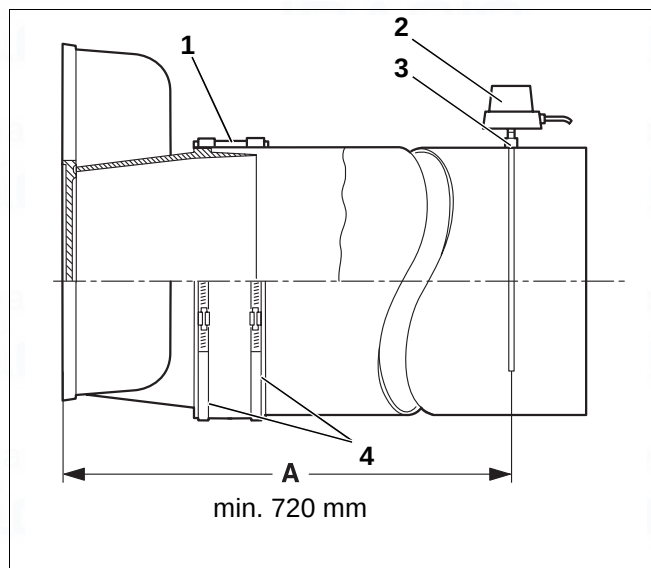

Fig. 29 Installation – flue pipe
It is recommended that a flue pipe sealing collar be used (Fig. 29, [1]).
- ▶ Place jubilee clips (Fig. 29, [4]) over the flue pipe sealing collar. One of the jubilee clips must press onto the flue gas header outlet and one onto the flue pipe.
- ▶ Weld the coupling (Fig. 29, [3]) into the flue pipe at a distance from the flue gas header which is twice the diameter of the flue pipe (A) – min. 720 mm.
- ▶ Fit the flue gas temperature sensor (Fig. 29, [2]) as described in the separate installation manual.